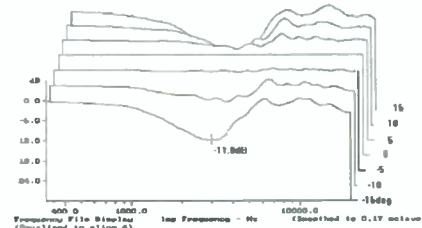

FIGURE 8: Vertical polar response ( $-15^\circ$  is  $15^\circ$  below tweeter axis).
*Figure 8* is the waterfall plot of vertical polar response for the A652. Responses are shown in 5° increments from 15° below (-15°) the tweeter axis to 15° above it. Response at ±5° is within 0.4dB of the on-axis response. At ±10° response dips 5.1dB, and at ±15° it is -11.8dB in the crossover region. This dip is caused by the wide separation of the drivers relative to the crossover frequency. The inter-driver separation is 1.2 times wavelength at the 3kHz crossover frequency. This is almost a factor of two greater than the separation